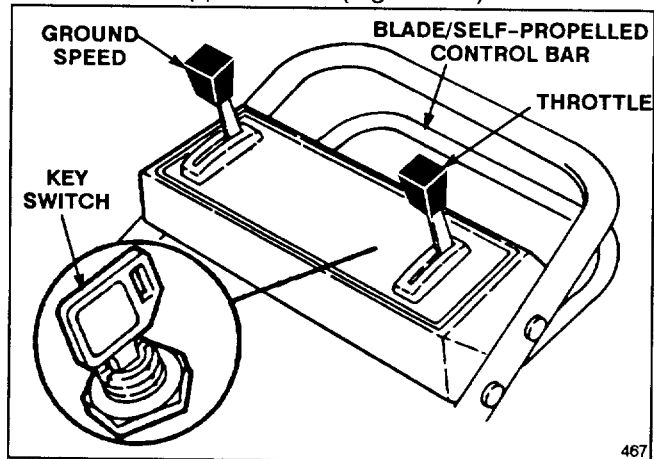

Figure 7
1. **CONTROLS** – Key switch, ground speed control, throttle, blade/self-propelled control bar, and fingertip starter are on upper handle (Figs. 7 & 8).